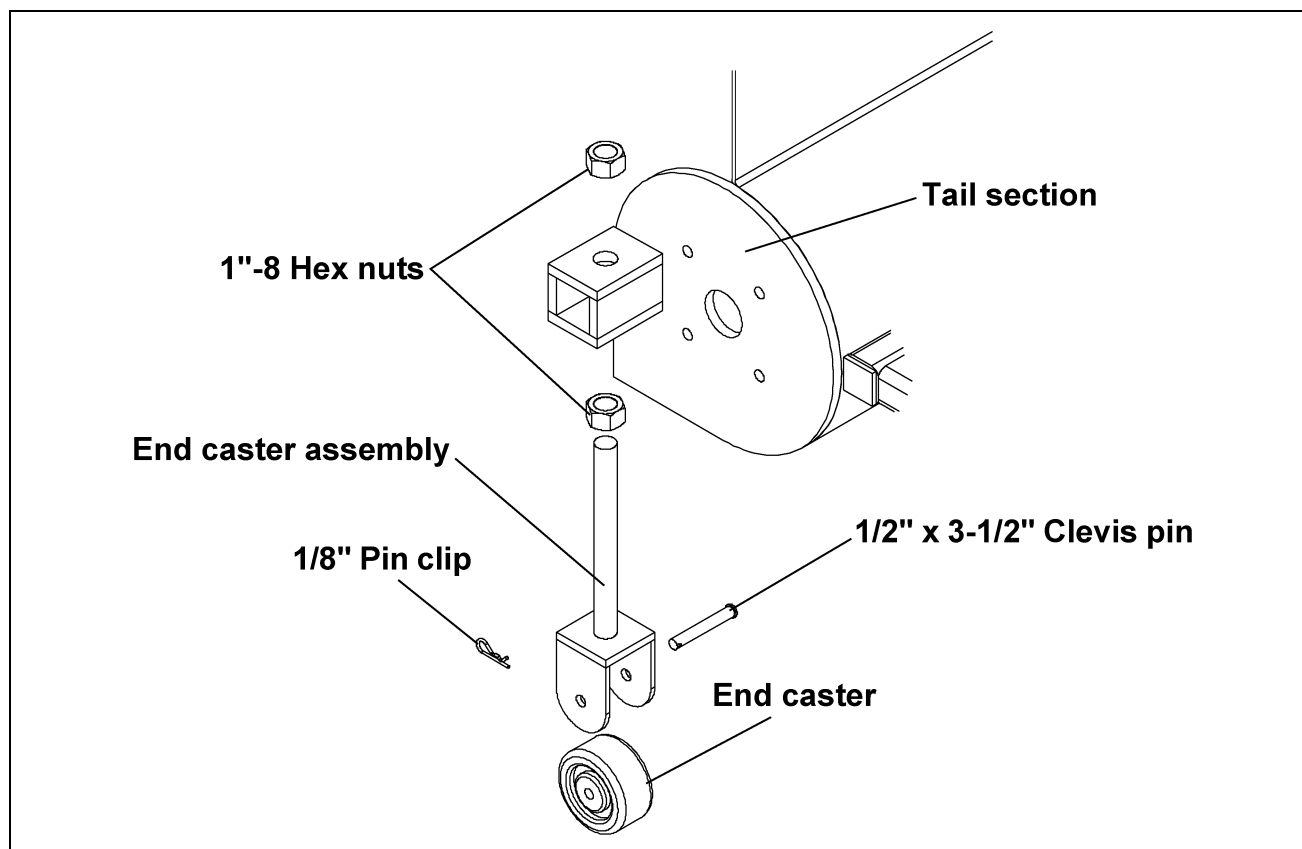

Figure 5A
- B. **(All 16" models with extensions)** Assemble the end caster to the end caster assembly using the 1/2" x 3-1/2" clevis pin and 1/8" pin clip as shown in Figure 5A.
- C. Attach the end caster assembly to the end of the tail section using two (2) 1"-8 hex nuts.